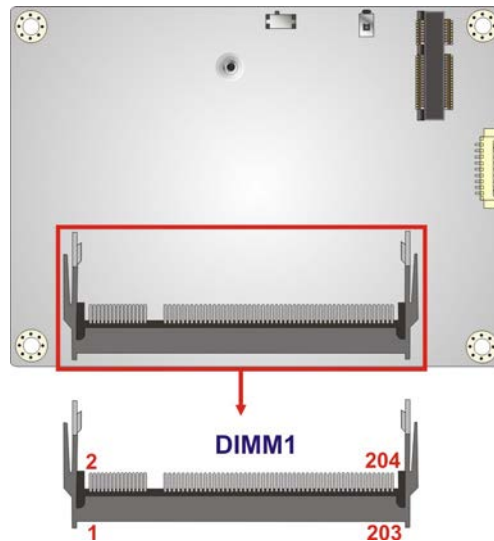

Figure 3-8: DDR3L SO-DIMM Slot Location
- CN Location: See **Figure 3-8**